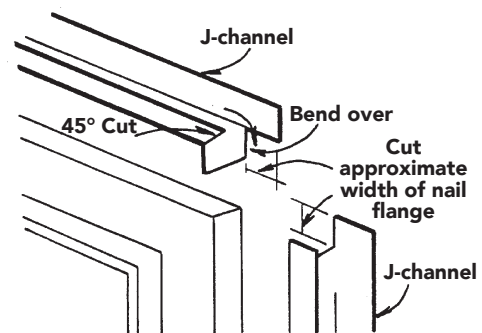

Figure 55
- Cut the side J-channels the length of the frame plus the width of the top and bottom J-channel. Cut notches in the top of the side J-channel. Cut and bend tabs (Figure 55) into the bottom channel. Install the side channels.
- Cut the top J-channel the width of the frame plus the width of the side J-channels. Notch the top J-channel on each end, bend the tabs into the side J-channel, and fasten the top J-channel (Figure 55).